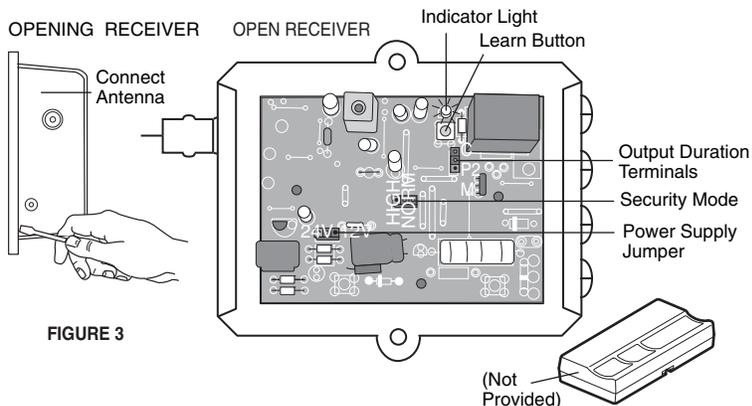

FIGURE 3
**STEP 1:** Pry open the front panel of receiver case with a coin or a screwdriver. Re-connect power to opener (Figure 3).